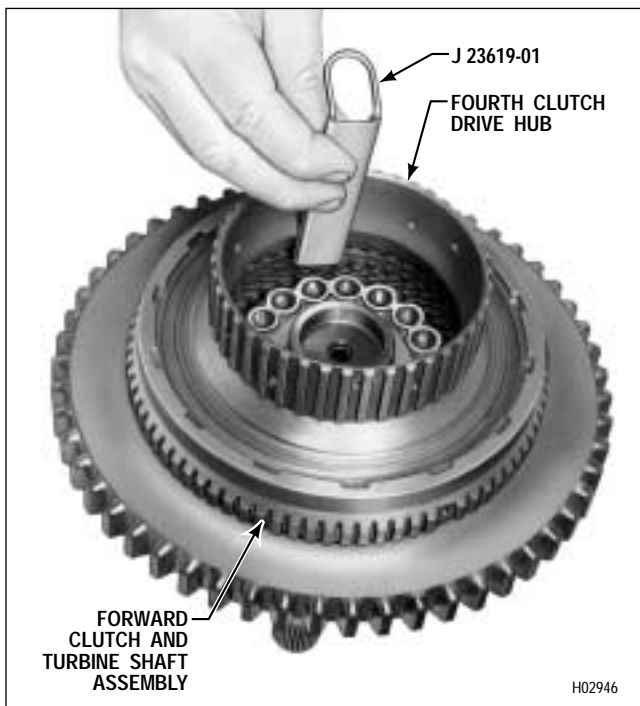

Figure 6-39. Checking Forward Clutch Clearance (Models Without Wave Plate)
(9) Install the fourth clutch drive hub (Figure 6-39) into the housing assembly and secure the hub with snapping 30 (Foldout 8).